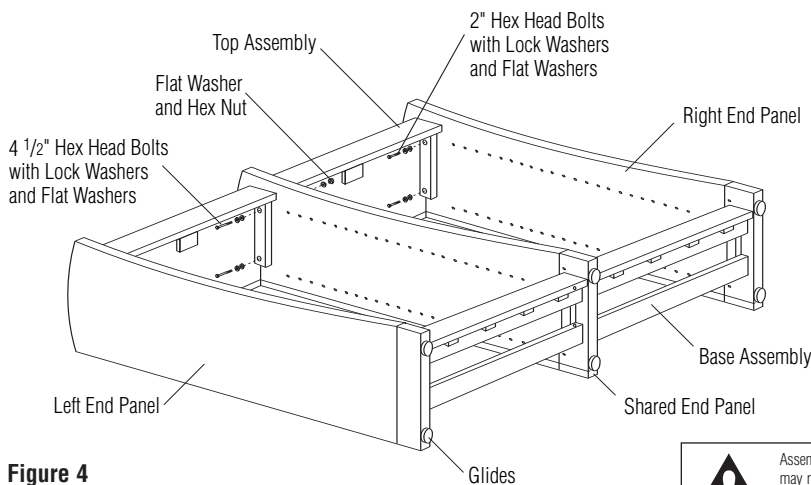

Figure 4
5. For adder units (connecting) – Align the side holes in the shared panel (holes both sides) with the holes in both the base assembly and the top assembly. Insert 4 1/2" hex head bolts with lock washers, flat washers and nut into the base assembly. Do not tighten (Figure 4).
6. Align the side holes in both the base and top assembly with the side holes in the right end panel. Insert 2" hex head bolts with lock washers and flat washers into base assembly and top assembly (Figure 4).